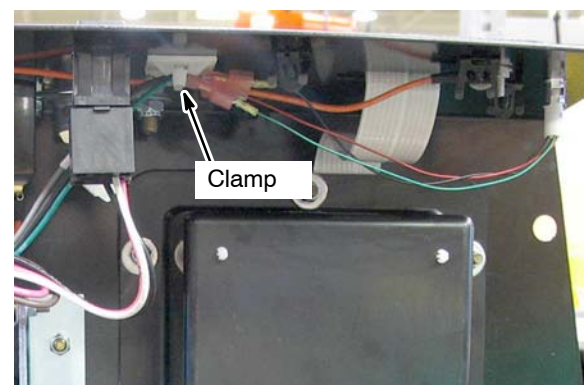

Fig. 11
9. Secure the LED wires as shown (Figure 11).